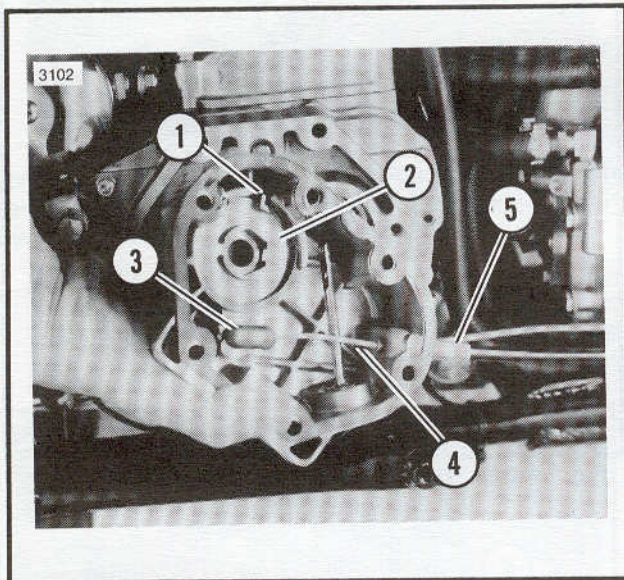

Figure 7-11. Clutch Cable Connection
4. See Figure 7-11. Note position of retaining ring opening. Remove retaining ring (1). Lift inner ramp (2) and coupling (3) out of side cover. Disconnect clutch cable end (4) from the ball and ramp coupling (3).
3. Check fit of the hub on ramp (2) in ramp (7). Replace both parts if there is excessive wear.
5. See Figure 7-11. Check the bore in the side cover casting where the ramps (2 and 7) are retained. There should be no wear/lips worn into the bore that would catch the ramps and cock them, causing improper clutch adjustment.
1. See Figure 7-11. Screw clutch cable fitting (5) into side cover. Do not tighten at this time.
3. See Figure 7-11. Connect cable end (4) to coupling (3). Install coupling on inner ramp (2) and place inner ramp and coupling in position in side cover.
4. Install retaining ring (1).
6. See Figure 7-11. Tighten clutch cable fitting (5) to 3-5 ft-lbs torque.